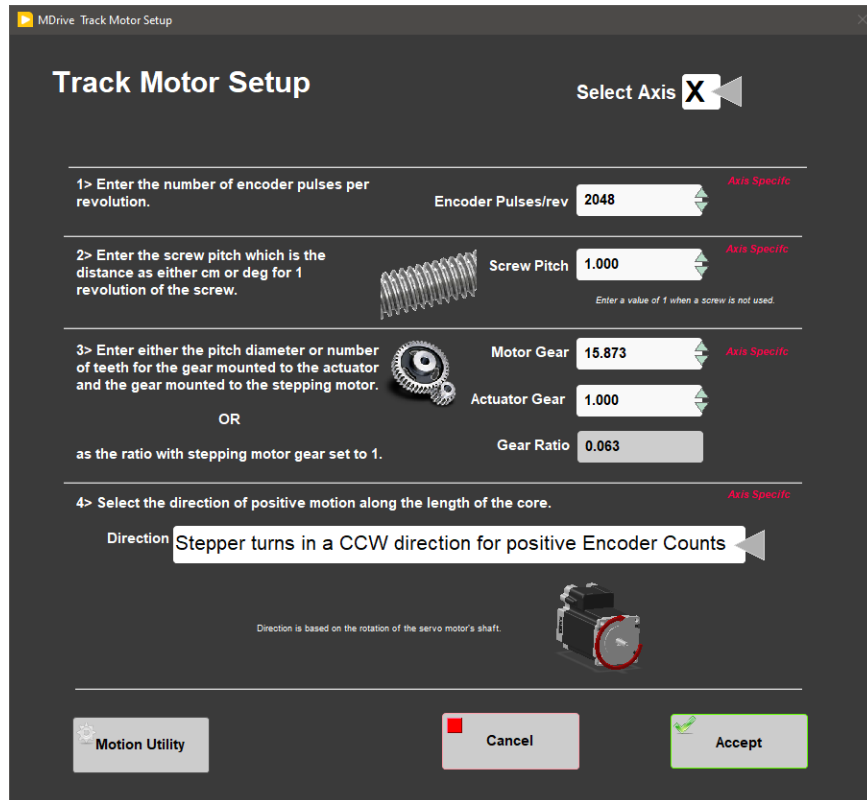

Figure 62- SRM Motor and Track Options Setup Window
- Make sure to use the values shown for the SRM (**Figure 62**).